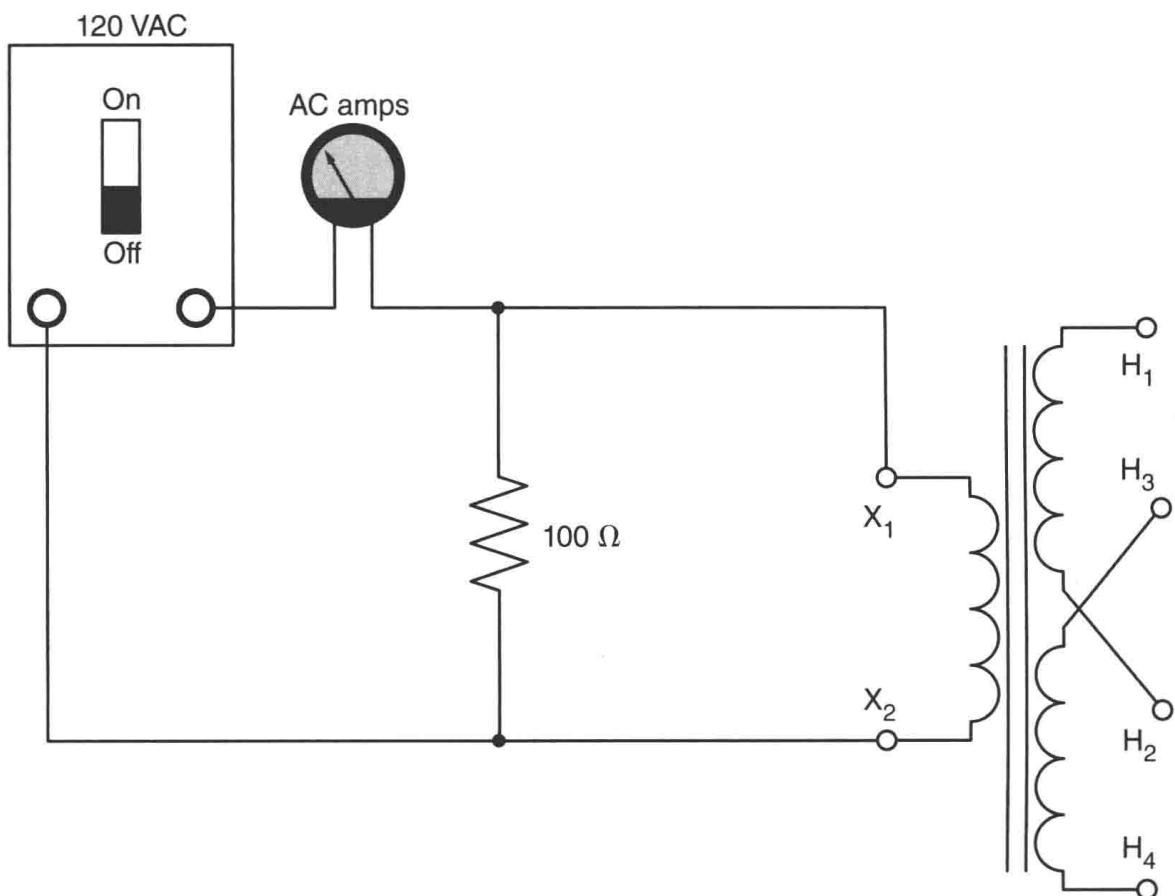

Figure 12-3 The ammeter is connected to measure the total circuit current.
1. Connect the circuit shown in Figure 12-3.